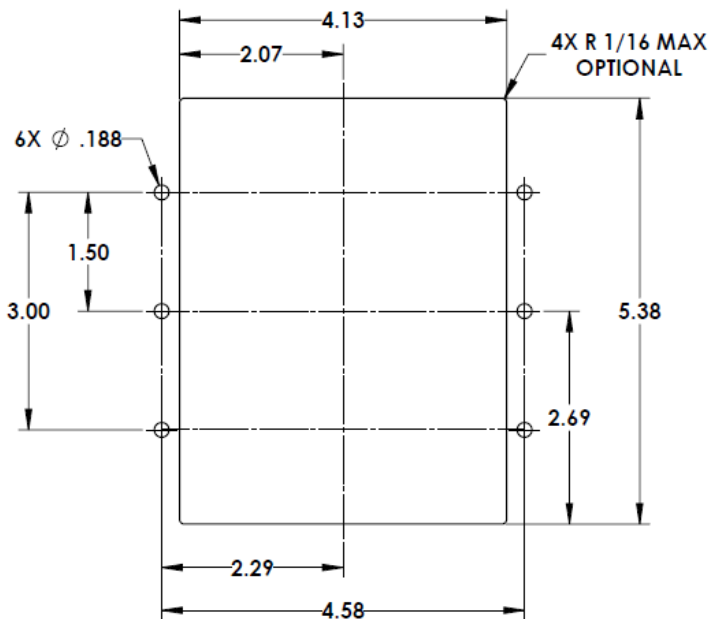

FIG 1
1. Remove the finish cover plate from the Power unit(s) (A). Save the screws (C) for use later.
2. Determine the power units mounting location and prepare the surface (FIG 1). Ensure the correct spacing to allow the finish cover to be installed later.